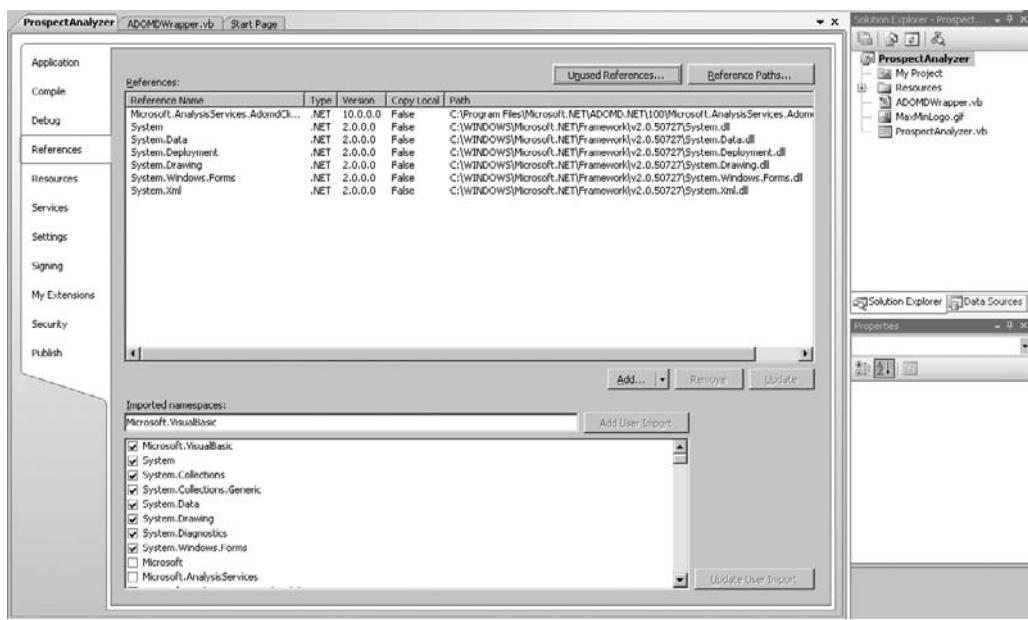

Figure 18-4 The References page of the Project Properties tab
2. Select the References page of the Project Properties tab. This page appears as shown in Figure 18-4. Notice the entry for Microsoft.AnalysisServices.AdomdClient at the top of the list of References.